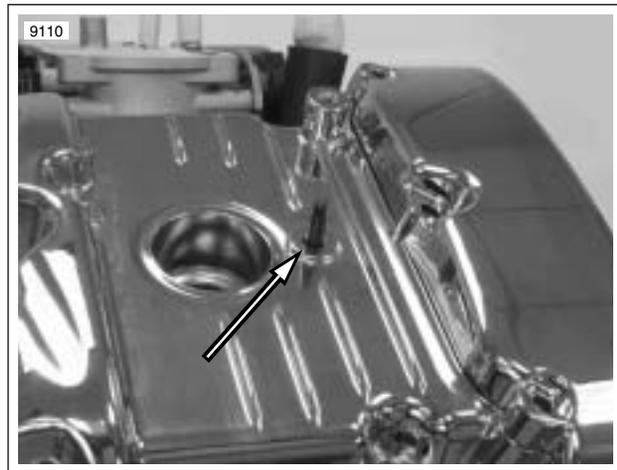

Figure 1-85. Gasket Alignment Tool (H-D-45340)
33. See Figure 1-85. Insert GASKET ALIGNMENT TOOL (HD-45340).